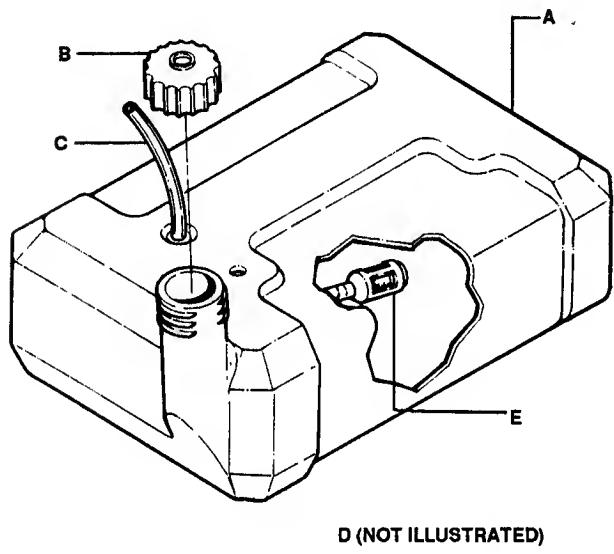

FIGURE 27
- (E.) Fuel pickup/filter. See Figure 27.